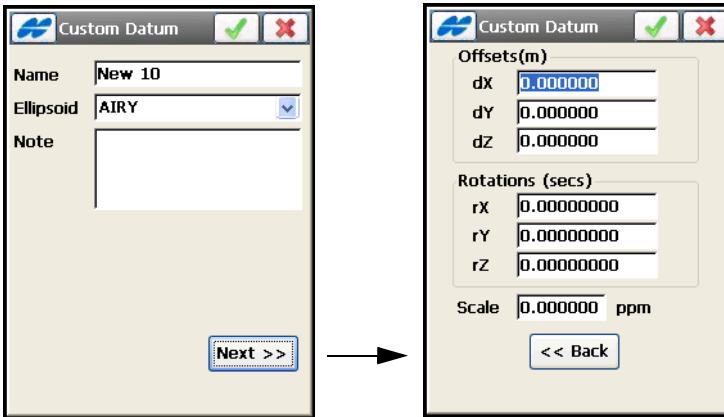

Figure 3-88. Custom Datum
- **Add** – opens the *Custom Datum* screen to enter parameters for a new custom datum (Figure 3-88 on page 3-92).
The *Custom Datum* screen (Figure 3-88) displays to enter or select parameters for a new custom datum.
- **Next** – opens another *Custom Datum* (Figure 3-88) screen to set offsets, rotations, and scale for the new datum